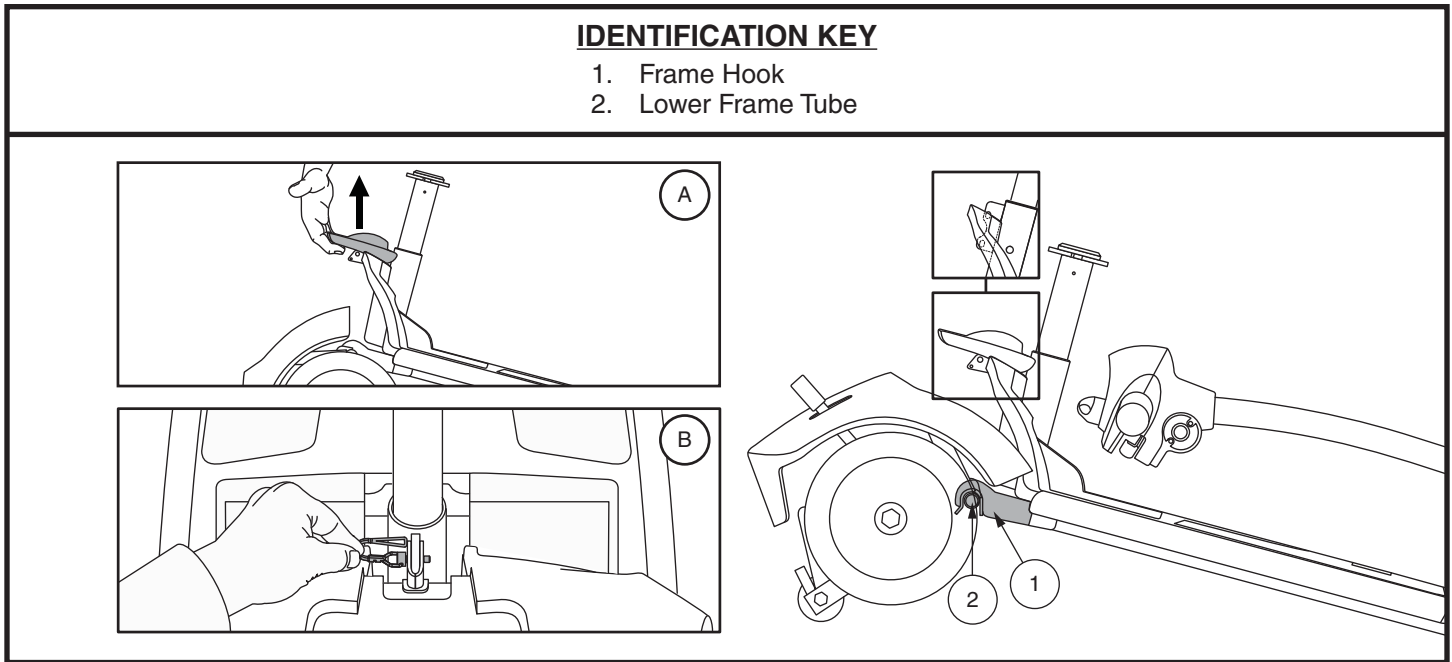

Figure 32. Frame Release Lever (Style A) and Frame Release Lock-up Pin (Style B)
4. Slowly separate the two sections of the Travel Scooter. **See figure 32.**
NOTE: Before attempting assembly, tilt the rear half of the Travel Scooter slightly back on the anti-tip wheels as shown in figure 32.
1. Use the frame release lever (or the seat post for models 36, 83, and 84 only) to lift the front section as you align the frame hooks of the front section with the lower frame tube of the rear section. **See figure 32.**
2. Once the frame hooks are over the lower frame tube, lower the front section and pivot the rear section simultaneously. This will engage the frame lock-up automatically for models 39, 40LX, 40X, 44X, 40E, 44E, 44LX, 49, 50LX, 54LX, 53, 53HD, 54, 54HD, 66, 67, 73, 74, and Jazzy ZTS. For models 36, 83, and 84, you will also need to reinstall the frame lockup pin to complete the body assembly. **See figure 32.**